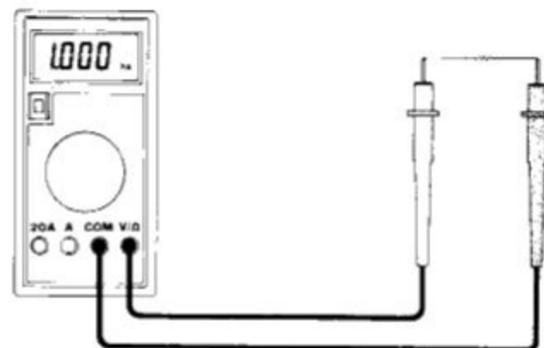

Fig. 5-6 Resistance measurement
2. Turn the Rotary switch to the ohm range to be used and connect the teal leads across the resistance under measurement. See Figure 5-6.